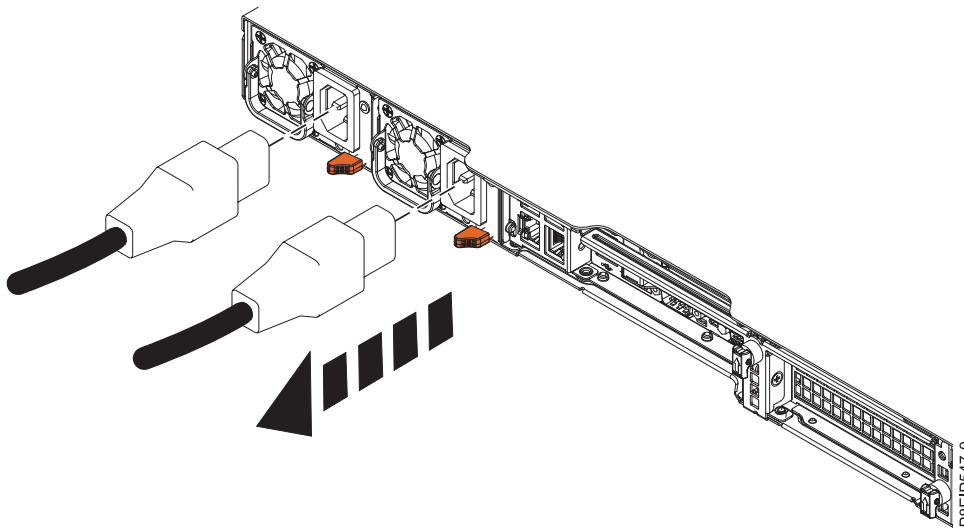

Figure 73. Removing the power cords from the system
2. Label and disconnect the power cords from the system unit as shown in Figure 73.